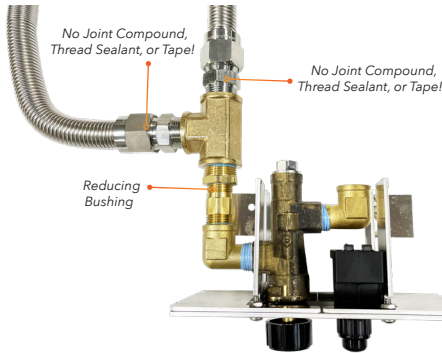

Figure 12: Final Assembly with Flex Lines Connected
- 4.9 **WITHOUT ANY THREAD SEALANT**, connect one end of each of the two Flex Lines to the flared end of each of the flared fittings extending from the  $\frac{3}{4}$ " Tee. Tighten with a wrench to avoid leaks. **{See Figure 12}**